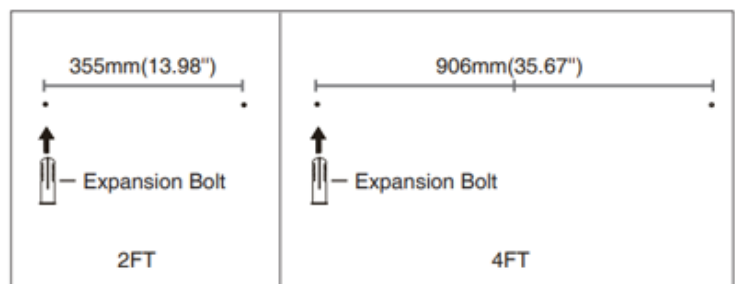

Figure 13
- Drill holes in the drywall ceiling as shown in the image on the right, then secure the expansion bolts. Please see Figure 13 for reference.